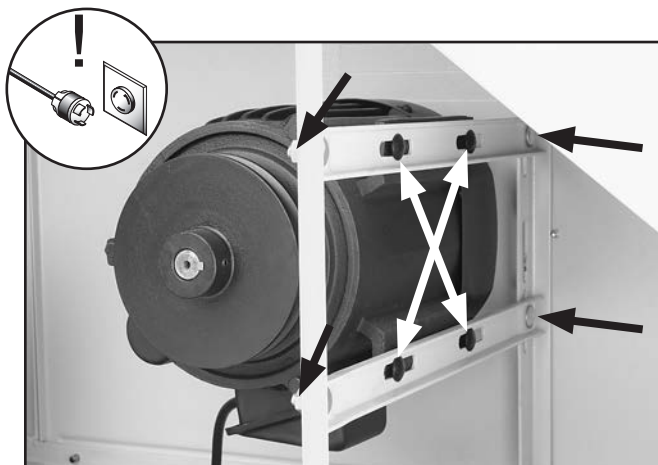

Figure 49. Motor bracket fasteners (black arrows); motor mount fasteners (white arrows).
3. Using a 13mm wrench, loosen the motor bracket fasteners shown in **Figure 49**, raise the motor to remove the V-belt tension. It may help to use a 2x4 to lift the motor.